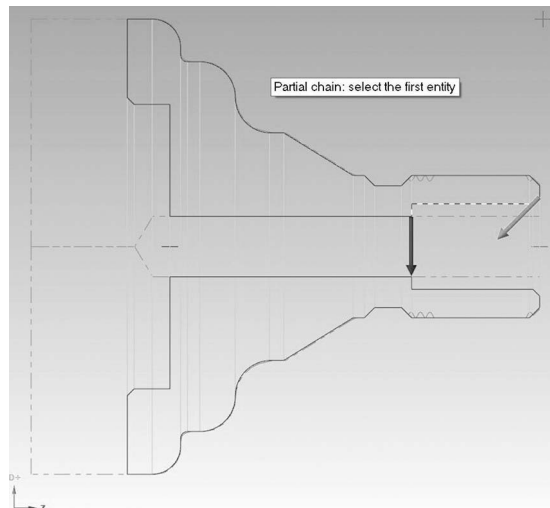

Figure 5-78 Bore Chain
- Follow the prompt to select the last entity in the chain, as shown in Figure 5-78.